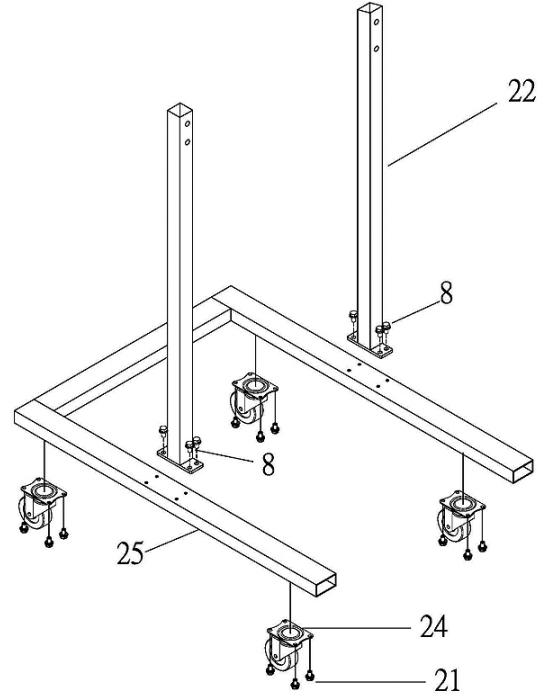

Fig. 1
1. Secure the Base (NO.25) and Base Wheels (NO.24) with 5/16" x 1/2" Flange bolt Screw (No.21). See FIG. 1.
2. Place and secure the Stand (No.22) with 5/16" x 3/4" Flange Bolt Screw (No.8) as FIG. 1.